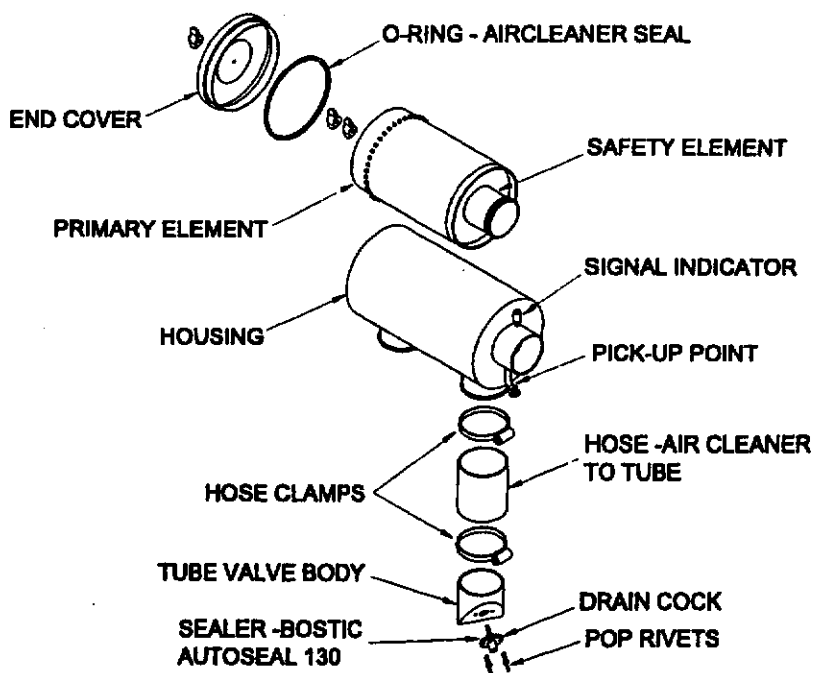

Figure 3-15 Air Cleaner Elements
- c. Wipe out the air cleaner housing with a clean damp cloth. Remove and clean the dust valve (see Fig. 3-15).